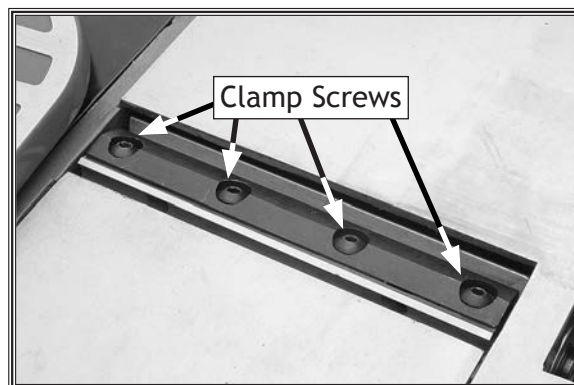

Figure 41. Cutterhead clamp screw location.
3. Remove the cutterhead clamp screws fastening the knife to the cutterhead (see **Figure 41**). Carefully remove the knife and clamp from the cutterhead.